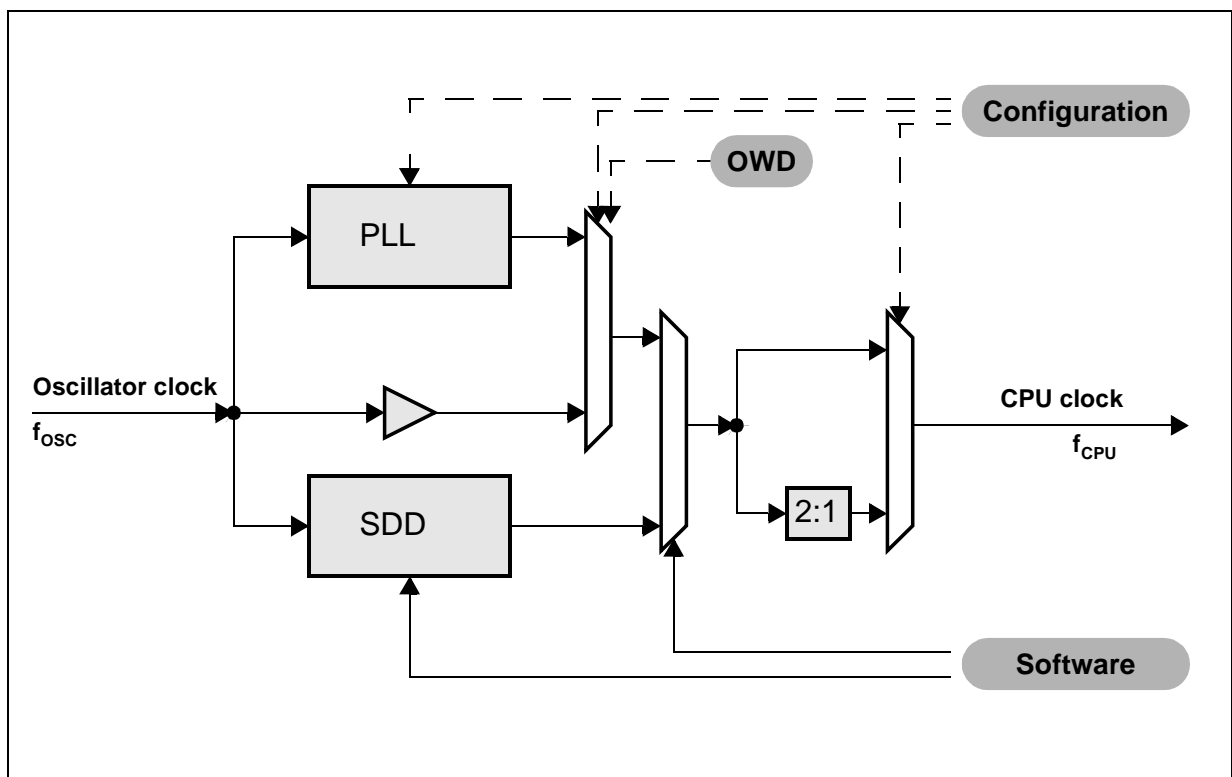

Figure 6-4 Frequency Control Paths
**The oscillator watchdog cannot provide full security** while the CPU clock signal is generated by the SlowDown Divider, because the OWD cannot switch to the PLL clock in this case (see Figure 6-4 on page 4). OWD interrupts are only recognizable if  $f_{OSC}$  is still available (e.g. input frequency too low or intermittent failure only).